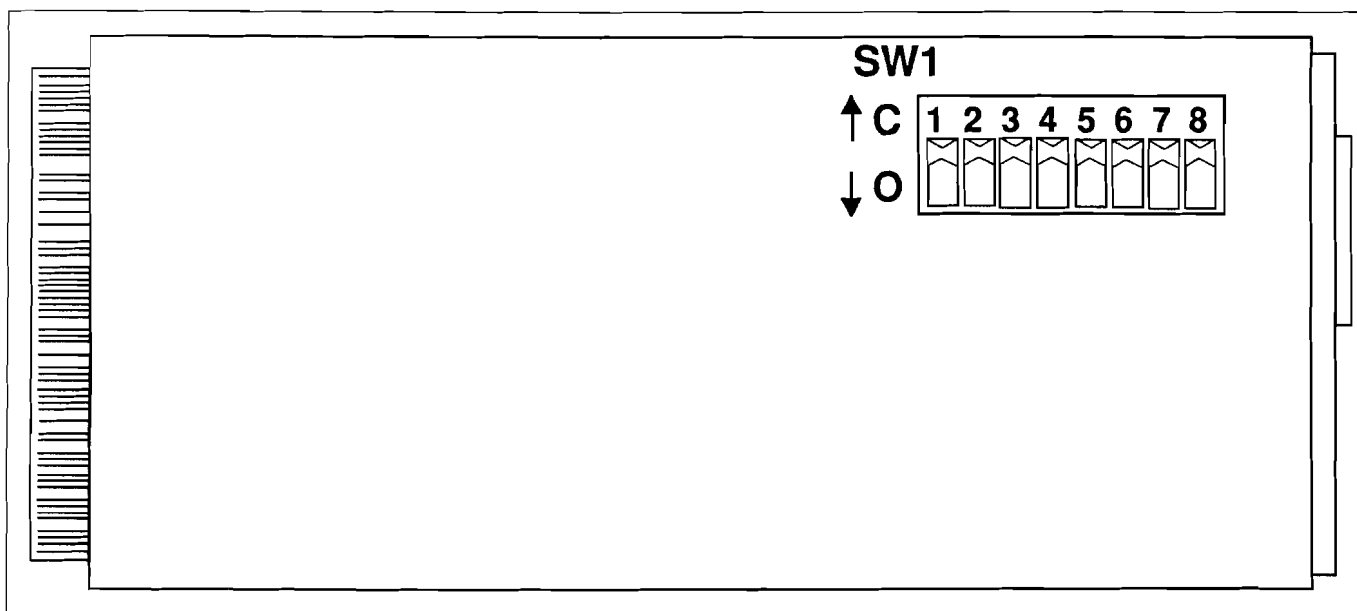

FIGURE 4. U-BR1TE SW1
1.02 This practice has been reissued for text correction and the addition of graphics. Issue 2 provided corrections to Switchbank 1, Tandem Office position settings. Issue 3 provides additional information concerning start-up configuration, testing features, latest CLEI designation and **Figure 2**, **Figure 4**, **Table A**, and **Table B**. Issue 4 added the new Sales telephone number and Issue 5 added Far End Open to **Table C**.
See Figure 4 for SW1 location